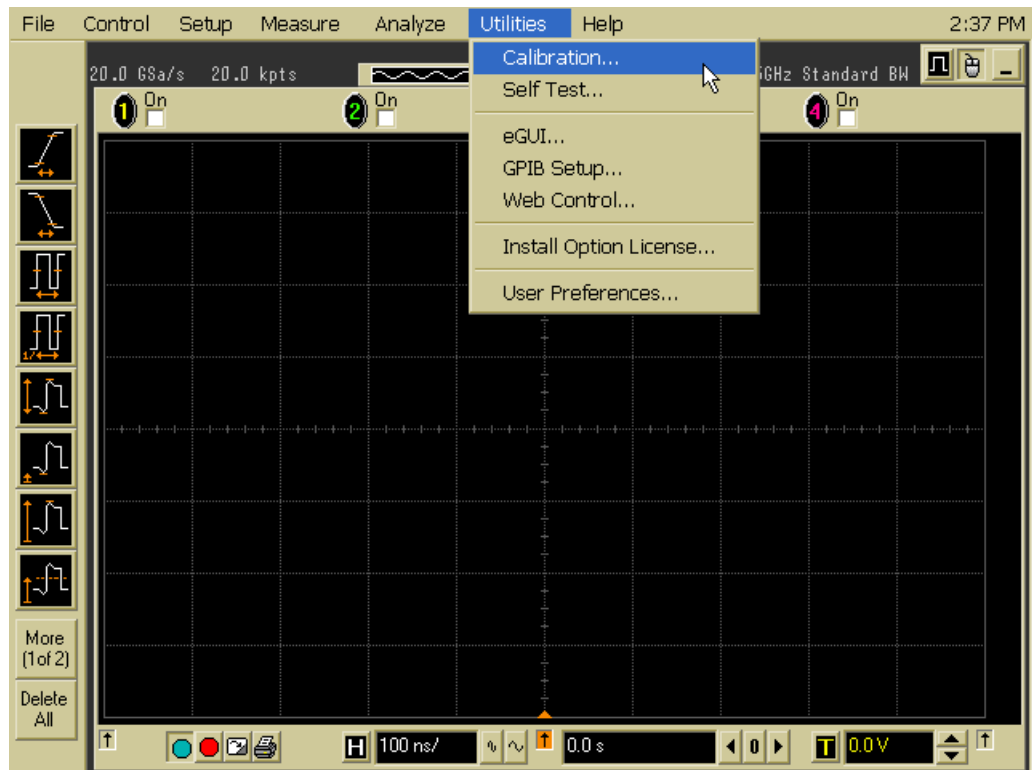

Figure 15 Accessing the Calibration Menu.
- 2 Referring to Figure 15 below, perform the following steps: